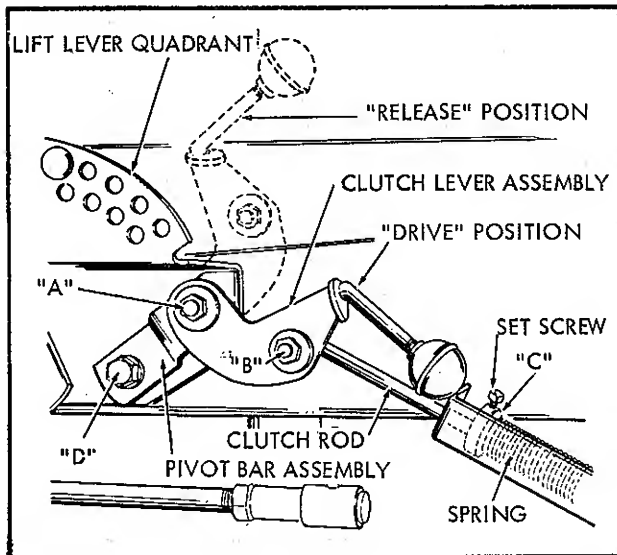

Fig. 4
4. Remove hex cap screw "D" from frame of tractor and mount bracket in place on lift lever quadrant. See Figure 4. Position the pivot bar assembly flush against bottom of lift quadrant and re-install hex cap screw and tighten securely. Check alignment of drive pulley on bevel gear shaft, driven pulley of power take-off, and idler pulley, and adjust driving pulley if necessary.
Operation of the power take-off is controlled by movement of the clutch lever assembly. See Figure 4. When the clutch lever is in the forward raised position, the clutch rod releases the tension holding the idler pulley against the drive belt, and power will not be transmitted to the driven pulley of the power take-off assembly. When the clutch lever is in the back, depressed position, the clutch rod applies tension to the idler pulley and as the idler pulley takes-up the slack in the drive belt, power is transmitted from the drive pulley on bevel gear box shaft to the driven pulley of the power take-off. Figure 4 shows clutch lever in drive position.
At points "A" and "B" of Figure 4, check tightness of hex nut to be sure that clutch lever assembly and clutch rod are free to pivot without binding.
Place clutch lever in "drive" position and observe clearance between collar "C" (Figure 4) and end of bracket. When implement is attached to tractor, this clearance should normally be approximately 3/4"; at this setting the idler pulley should be snugly against the drive belt. If additional tension is required, release clutch lever and loosen set screw on collar and slide collar farther back on clutch rod. Retighten set screw in collar and put clutch lever in drive position. Recheck clearance. The tension of the idler pulley against the drive belt must be sufficient to operate whichever tractor attachment is being used. Any additional tension is unnecessary and will only cause premature failure of belts and idler pulley bearings.